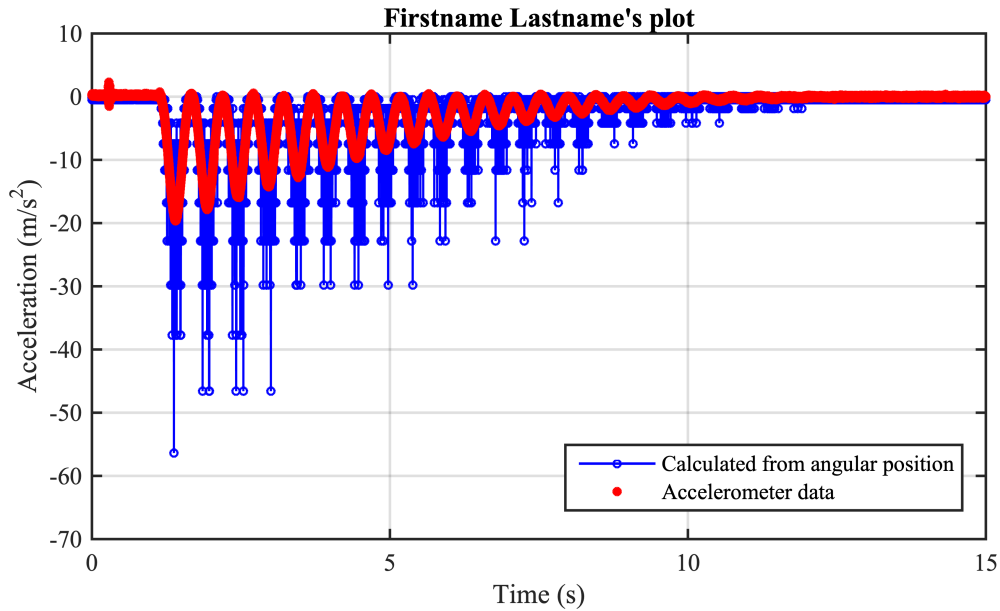

Figure 3: Sample post-process plot.
- For this experiment, a 3-axis accelerometer has been fixed to the end of the pendulum apparatus (see Figure 2). The accelerometer has been configured for $\pm 6g$ operation. The y-axis of the pendulum points towards the pendulum rotation axis (see Figure 3). For more information about the accelerometer, see Pololu.
- Connect the accelerometer to the breadboard using the provided 3-wire cable. See figure 3(a).
- Connect the Vin and GND pins on the accelerometer to the 5 Volt supply power (already used to power the potentiometer). See figure 3(b) for reference.
- Connect the y-axis accelerometer output to AI1 (Differential Analog Input 1). See figure 3(b).
- Connect the DAQ GND, instead of the AI1-, to the ground on the breadboard. See figure 3(b).
- Plotting the noisiest data first (This way the other data will remain visible). Sample plot is shown in Figure 3.